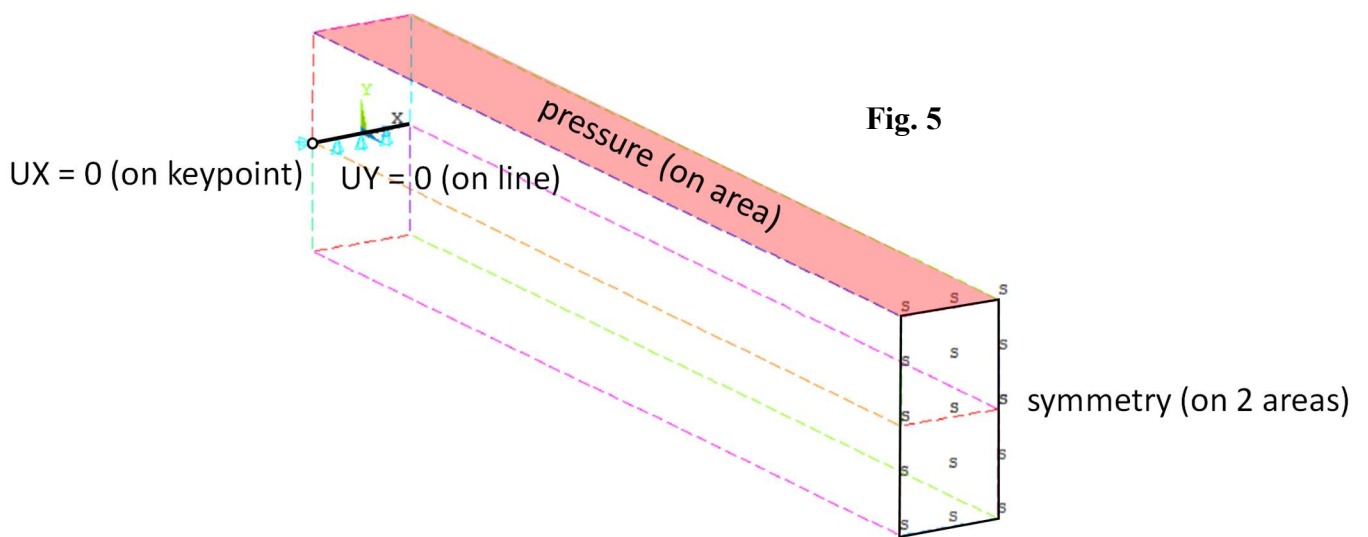

Fig. 5
6. Apply boundary conditions: displacements and pressure of 10/3 MPa (Fig. 5) (*Solution > Apply > Structural > Displacement ... and*)